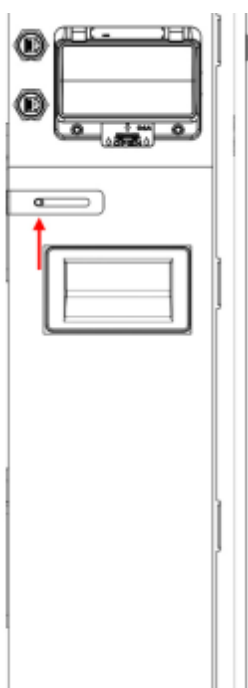

Figure 5-6
4. Adjust the left and right screws to the appropriate position to ensure that the battery is perpendicular to the ground, as shown in Figure 5-6.